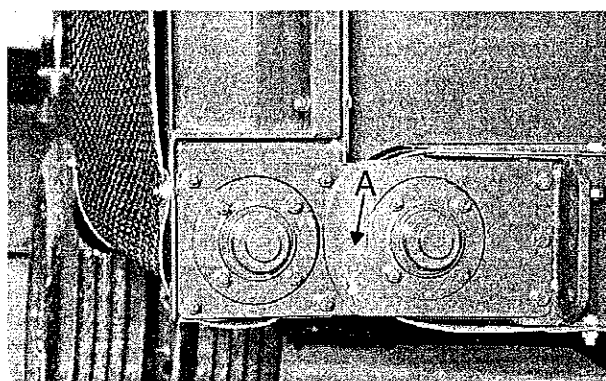

Figure 10. Conveyor Extension Lock.
**Conveyor Extension** - If your Vertical Tub Mixer is equipped with a conveyor extension boom, it can be locked in the upright position by installing a transport lock pin. See Figure 10. The transport lock pin is shipped loose in the manual storage tube located under the platform on the mixer. The transport lock is designed to keep the conveyor extension boom in the upright position for storage or transporting without hydraulic hook-ups. **It is important that the transport lock pin be removed when the hydraulic system is hooked up.** Activating the extension cylinder with the transport lock pin installed will severely damage the conveyor and conveyor extension boom.